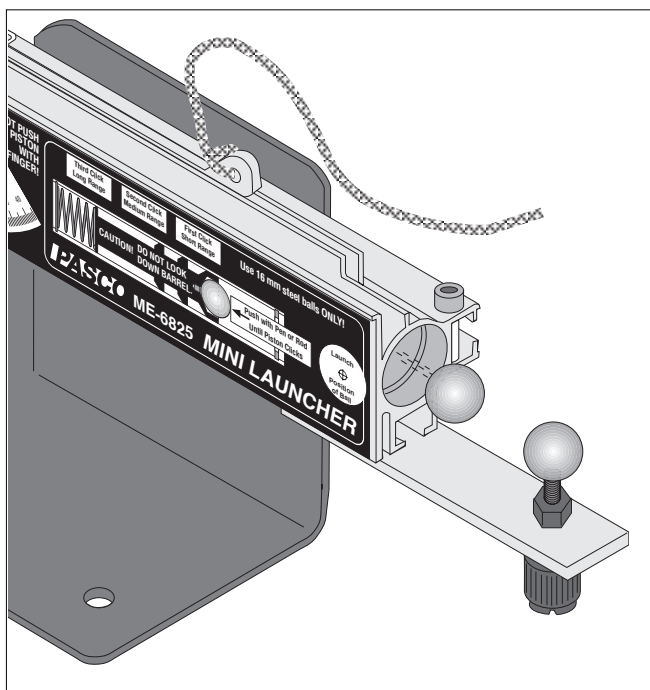

Figure 6.2: Collision Accessory Tee
- ① Clamp the Mini Launcher near one end of a sturdy table with the Launcher aimed inward toward the table. Mount the launcher in the top hole of the bracket.
- ② Adjust the angle of the Mini Launcher to zero degrees so the ball will be shot off horizontally onto the table. Fire a test shot to determine the range.
- ③ Place a piece of butcher paper on the table. The paper must extend to the base of the Launcher.
- ④ Mount the Collision Attachment on the Launcher. See Figure 6.2. Slide the attachment back along the Launcher until the tee is about 3 cm in front of the muzzle.
- ⑤ Rotate the attachment to position the ball from side to side. The tee must be located so that neither ball rebounds into the Launcher and so both balls land on the table. Tighten the screw to secure the collision attachment to the Launcher.
- ⑥ Adjust the height of the tee so that the two balls are at the same level. This is necessary to ensure that the time of flight is the same for each ball. Fire a test shot and listen to determine if the two balls hit the table at the same time.
- ⑦ Place a piece of carbon paper at each of the three sites where the balls will land.